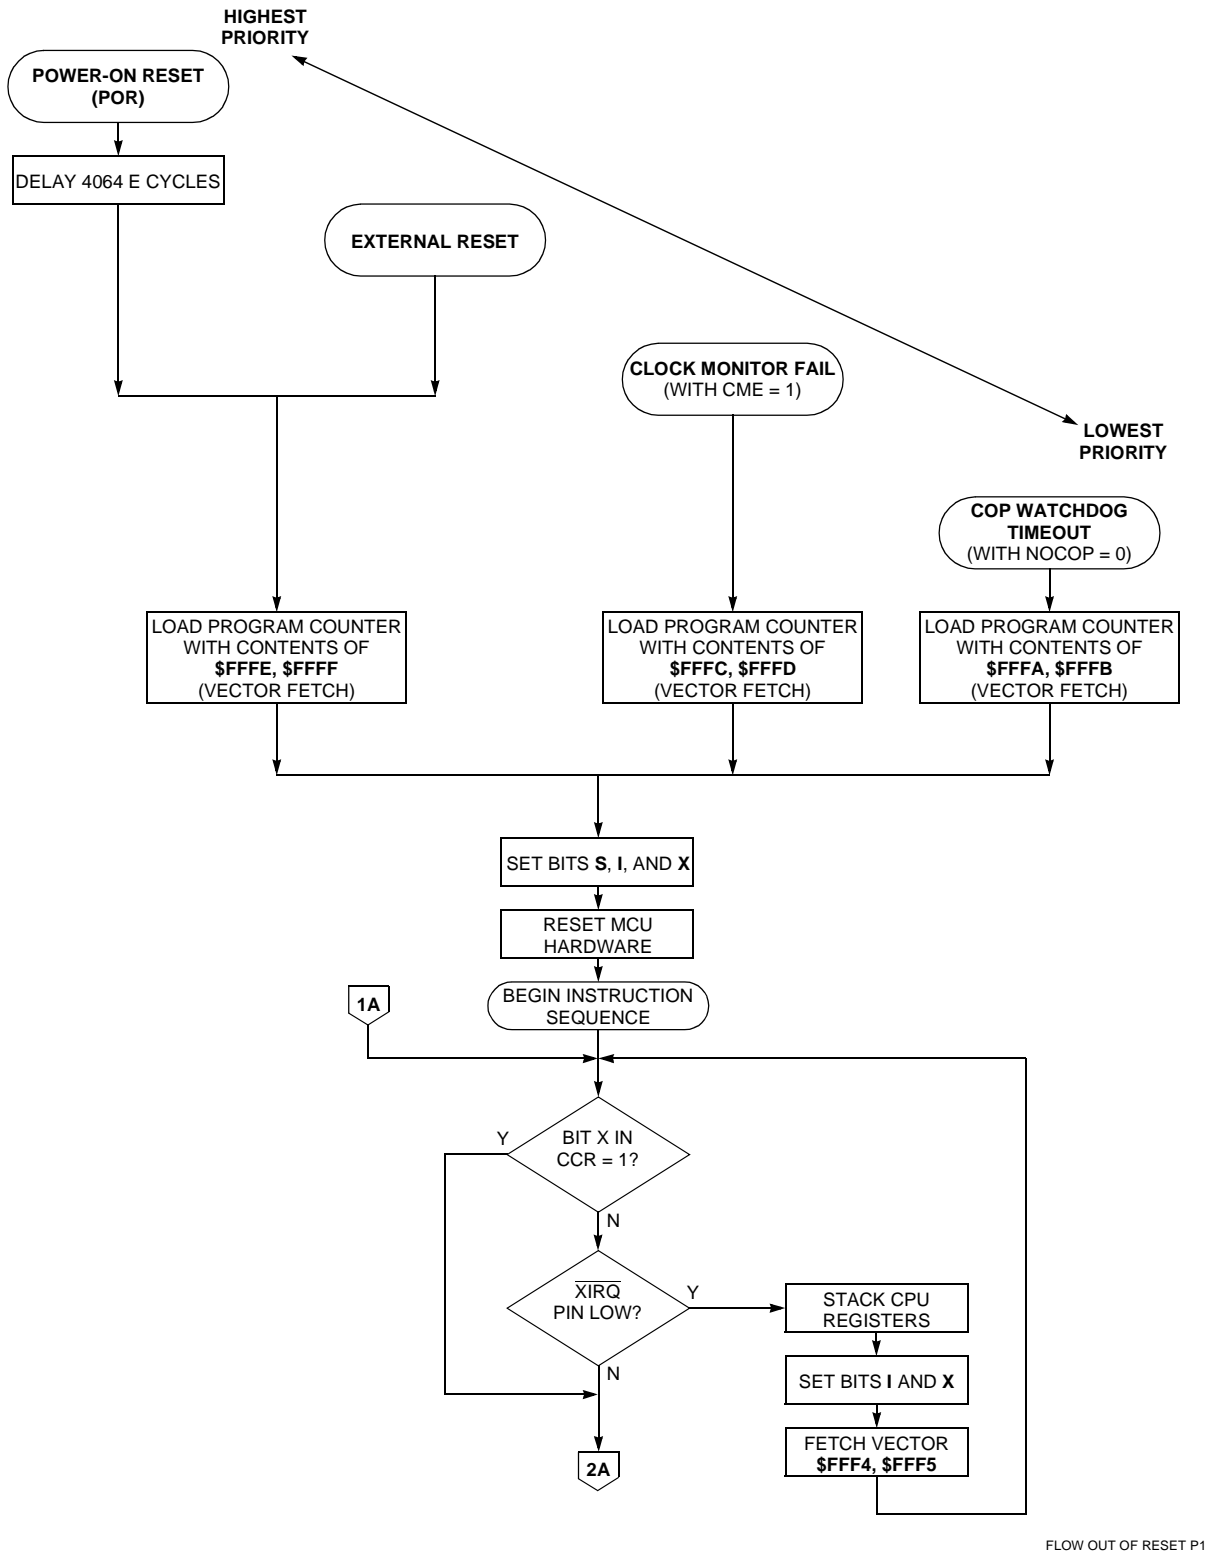

Figure 5-1 Processing Flow out of Reset (1 of 2)
**Figure 5-1** and **Figure 5-1** illustrate the reset and interrupt process. **Figure 5-1** illustrates how the CPU begins from a reset and how interrupt detection relates to normal opcode fetches. **Figure 5-1** is an expansion of a block in **Figure 5-1** and illustrates interrupt priorities. **Figure 5-2** shows the resolution of interrupt sources within the SCI subsystem.